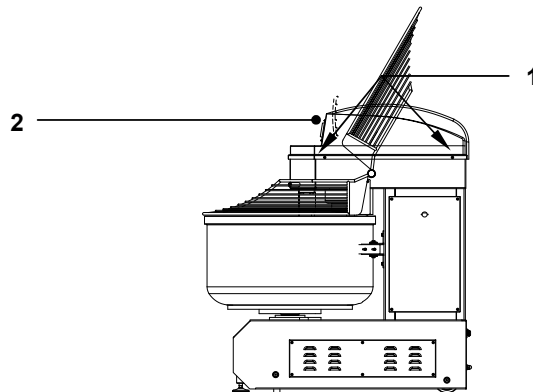

Figure 13 - How to access the drive belts for spiral arm movement
With reference to Figure 13, to access the belts, loosen the no. 4 screws ref. 1 and dismantle the guard ref. 2 located over the head protecting the drive units.